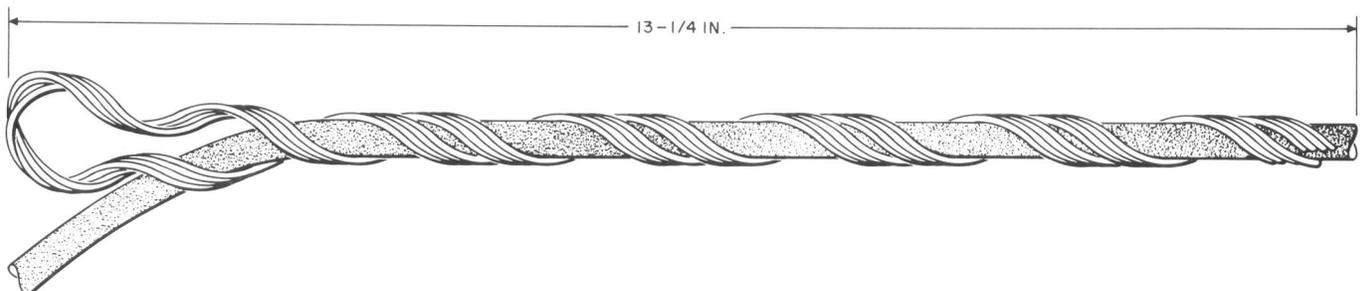

Fig. 14—Dead Ending G Coaxial Wire With Preformed Deadend DE-2507
7.02 Place Preformed deadend DE-2507 on the G coaxial wire shown in Fig. 14 as follows:
(Fig. 14). When attaching E coaxial wire at midspan install a span clamp on the strand and attach the E coaxial wire with a Preformed coaxial deadend.